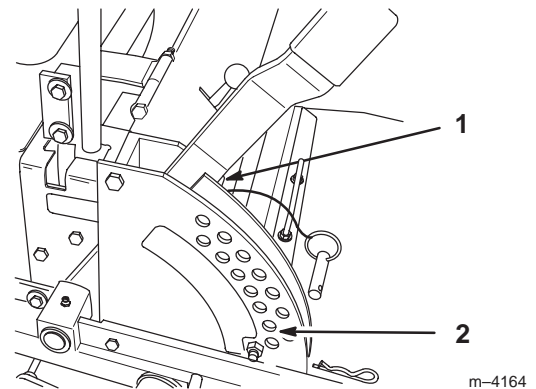

Figure 63
- Raise the deck to the transport position and take all force off of the two large deck lift springs by loosening nut in front of each spring (Fig. 63).
- Place two 1-1/2 inch (38 mm) thick blocks under rear left and right lower edge of mower. Place one 2-1/4 inch (57 mm) block under front center lower edge of mower. Lower mower to the 2 inch (51 mm) height-of-cut position (Fig. 63).
1. Raise deck lift lever to the transport position, (Fig. 63).